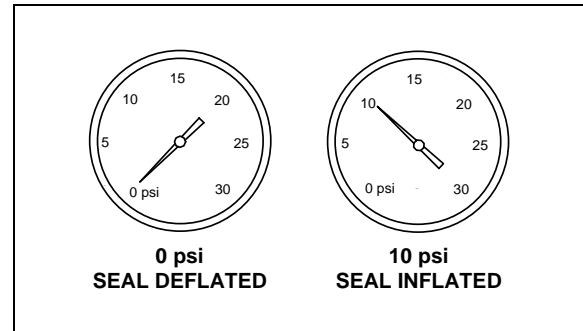

FIGURE 93: INFLATABLE SEAL PRESSURE GAGE
- Finally, the inflatable seal can be re-inflated by turning the shut-off valve handle counterclockwise. Check the pressure gage on the inflatable seal regulator to see if the pressure is increasing to 10 psi (FIGURE 93).